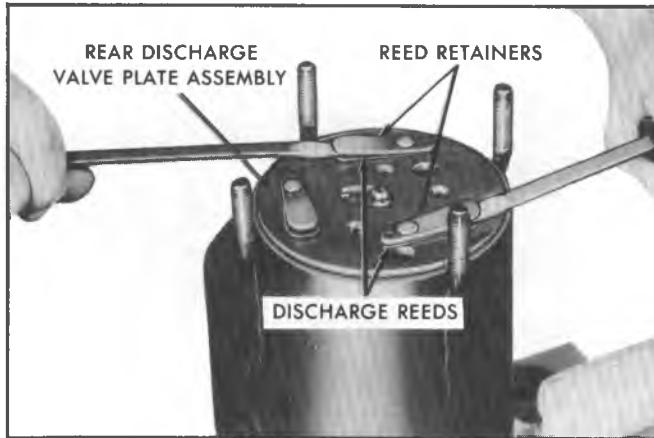

Fig. 26--Removing Rear Discharge Valve Plate
9. Carefully remove rear discharge valve plate assembly. Use two small screwdrivers under reed retainers to pry up on assembly (Fig. 26). **Do not position screwdrivers between reeds and reed seats**.